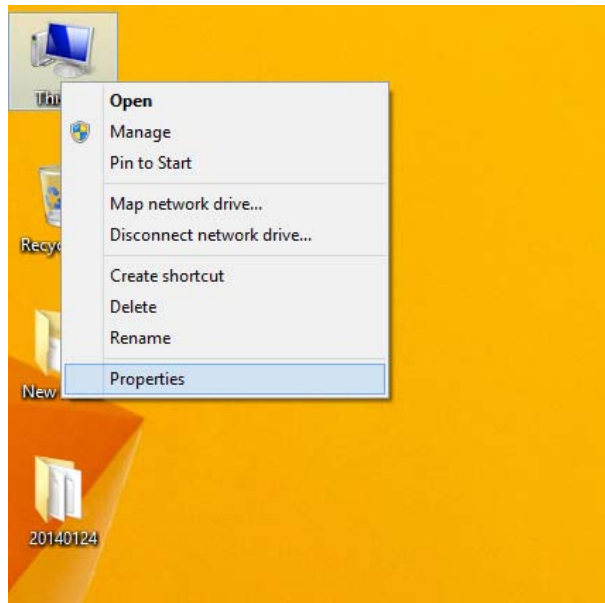

Figure 6-13: PC Properties
**Step 1:** Right-click This PC icon on the desktop and select **Properties**. (Figure 6-13).